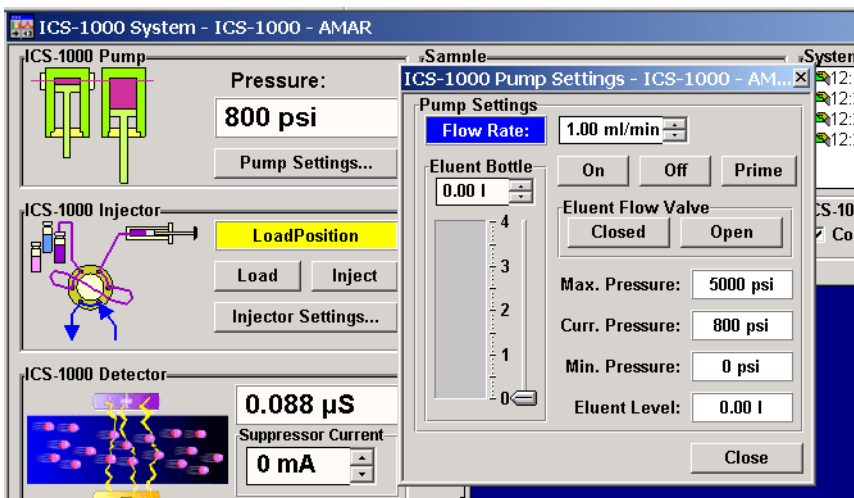

Figure 36. Chromeleon Control Panel: Pump Settings
4. On the Chromeleon Control Panel, click **Pump Settings** and then click **Eluent Flow Valve Open** (see Figure 36).
3. Click **Prime** on the Chromeleon Control Panel (see Figure 36). The pump will begin pumping at approximately 3.0 mL/min.